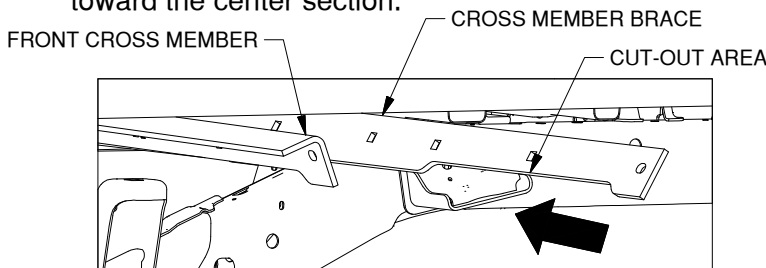

Figure E2: Looking into drive side wheel well.
- 2. Place the front cross member brace.** Locate the front cross member brace. Install the brace between the frame and truck bed from the driver side. The cut-out area should be facing down. This end of the brace will go into the truck last and provide clearance for the fuel tank on some models, see Figure E2. Once it spans both frame rails, slide the brace back toward the center section.